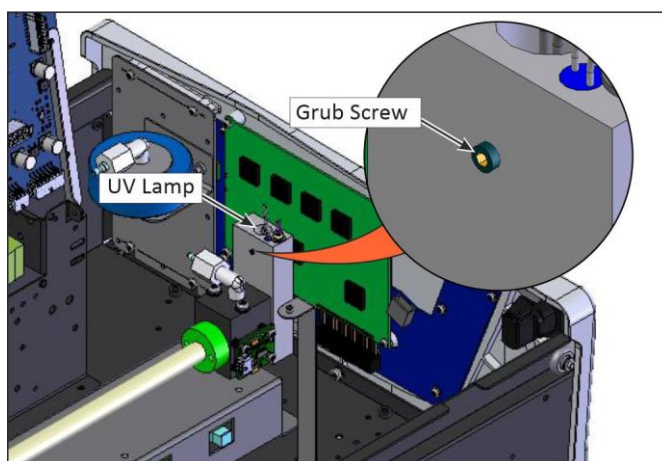

Figure 137 – Location of UV Lamp Securing Grub Screw
5. Loosen the grub screw (1.5 mm hex key) located in the centre of the lamp block (refer to Figure 137) securing the UV lamp and slowly pull the UV lamp out of the block.